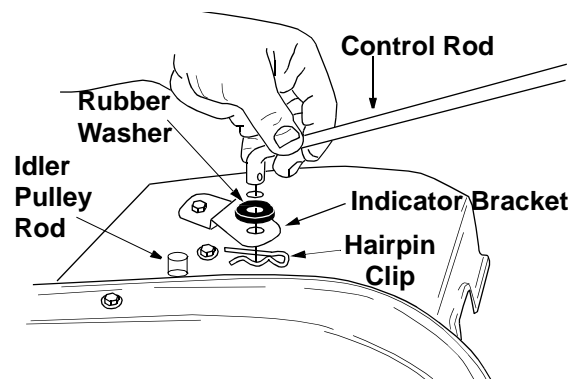

Figure 7
2. Insert the shorter, (angled), end of the control rod through the indicator bracket on the shift cover and secure with hairpin clip that was removed in step 1. (See Figure 7).